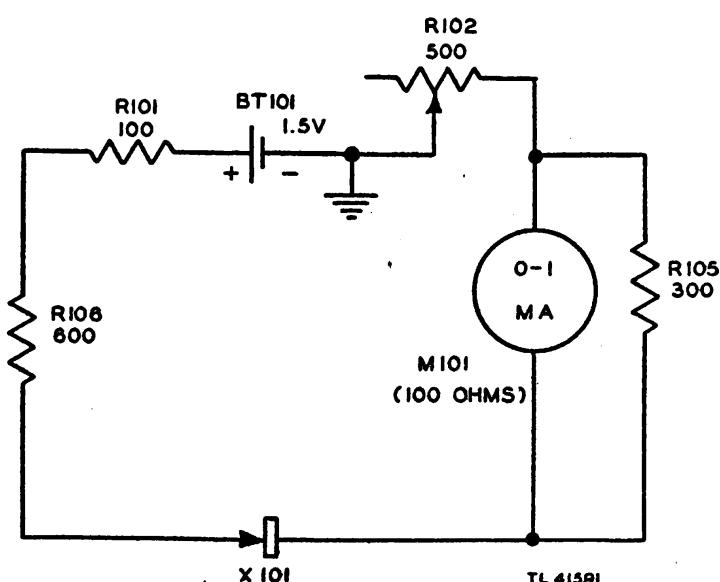

Figure 7. Circuit for forward resistance measurements, simplified schematic diagram.
(3) FWD RES Position (fig. 7). When the selector switch is rotated to this position, the crystal rectifier under test is inserted into the series circuit described in subparagraph (2) above. The additional resistance introduced into the circuit by the crystal rectifier causes a decrease in the current flow, and the meter pointer will indicate at some point on the scale other than the full-scale mark. Since the upper scale of the meter is calibrated to express resistance in terms of the current flowing through the meter coil, the forward resistance of the crystal rectifier (in kilohms) is read directly from this scale.